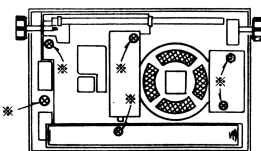

Fig. 2
3. Remove the five screws and a stud marked (*) shown in the Fig. 2.